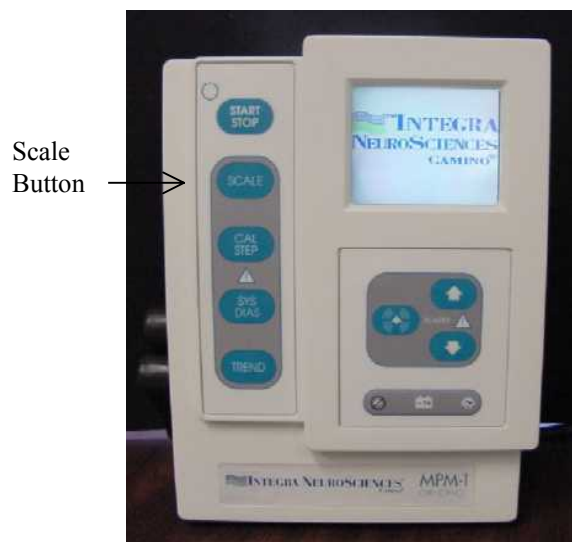

Figure 2-6 Scale Button
- After the Catheter has been inserted into the patient, (see the catheter Directions For Use for proper insertion technique) select the appropriate scale by repeatedly pressing the **SCALE** button on the MPM-1 front panel (Figure 2-6).